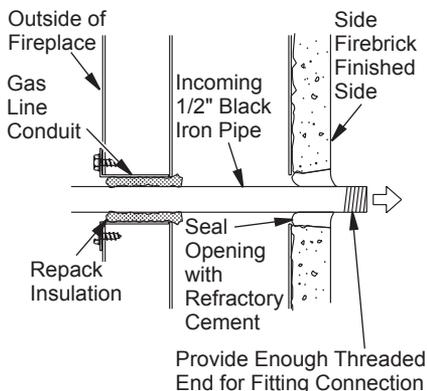

Figure 25 - Gas Line Installation
3. Run a 1/2" black iron gas line into fireplace through rear at gas line conduit sleeve (if using a raised platform, add height). Provide sufficient gas line into fireplace chamber for fitting connection (see Figure 25, page 14).